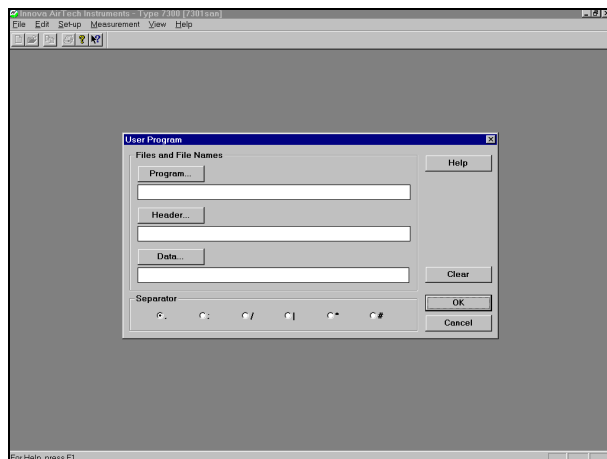

Fig B.2 The User Program dialogue
1. Pull down the **Set-up** menu. Click on **User Program**. The User Program dialogue will be displayed, see Fig.B.2.